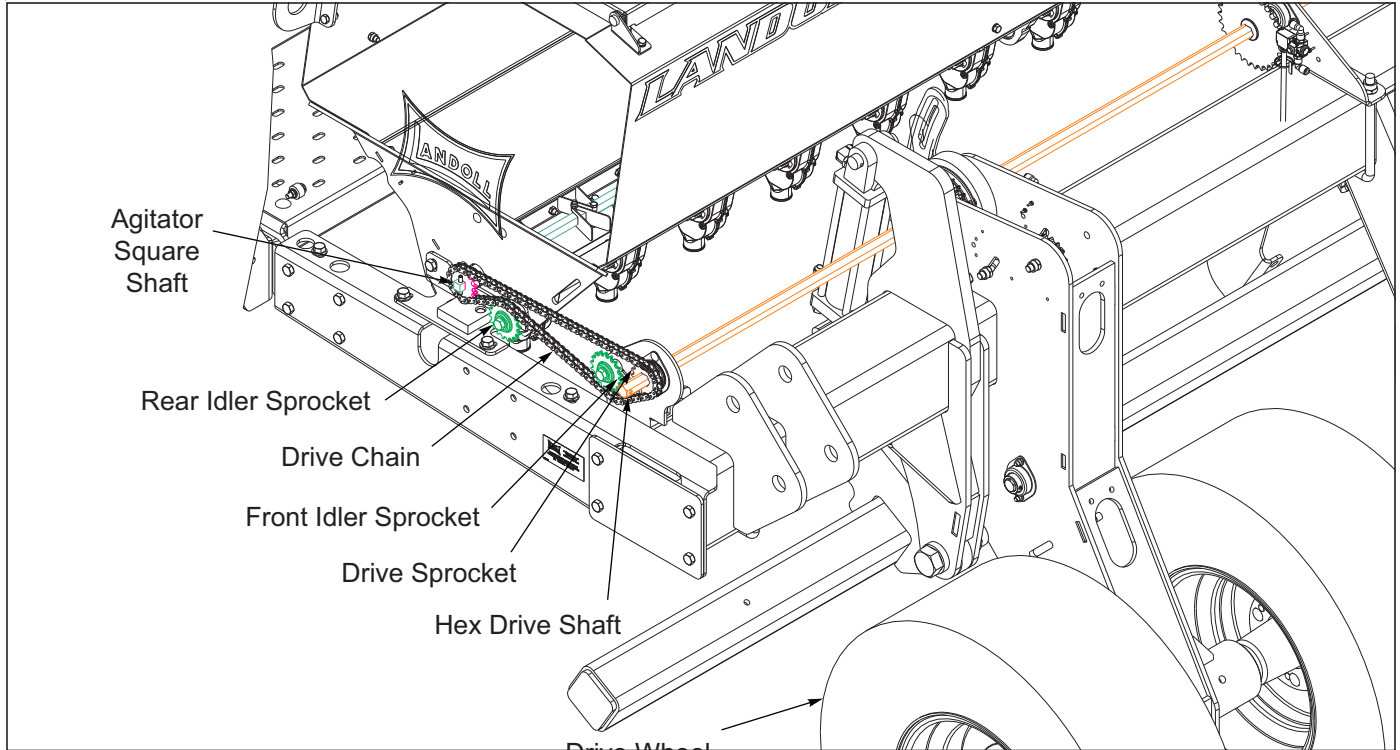

Figure 3-11: Agitator Drive Chain Assembly
16. Route the drive chain around the agitator shaft and to the front hex drive shaft as shown **See Figure 3-11**. Adjust the chain tension with the front idler sprocket. Adjust the drive and idler sprockets as necessary to make sure the chain